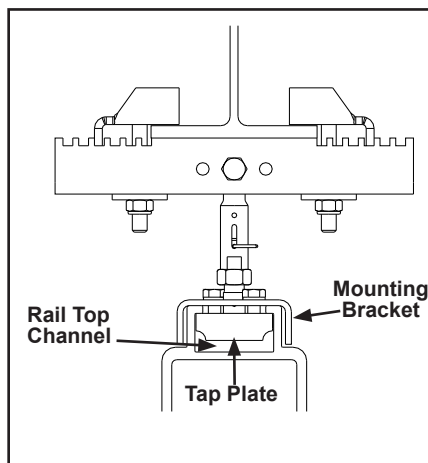
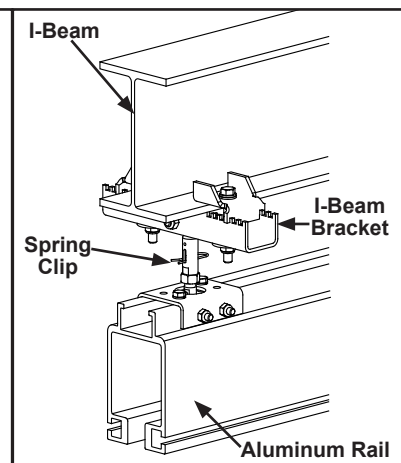

Figure 3-53
Figure 3-55
Step 1. Remove cross bolts. Slide rail mounting bracket on top of bracket channel and tap plate into bracket channel at top of runway rail. Position per system layout. See Figure 3-53 through Figure 3-55.